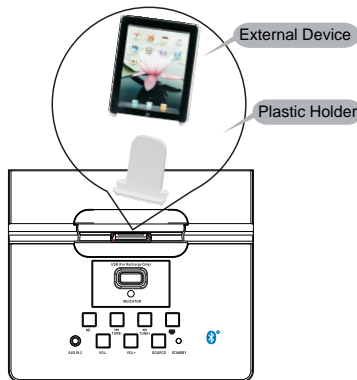

Figure 5
3. Install the Plastic Holder on the top of unit to hold the external device as Fig. 5 above.